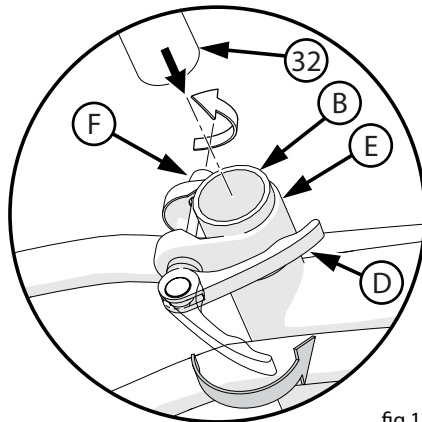

fig 11
- Open and close the Quick Release Lever with one hand while you turn the Adjusting Nut (F) with the other hand (**fig 11**).